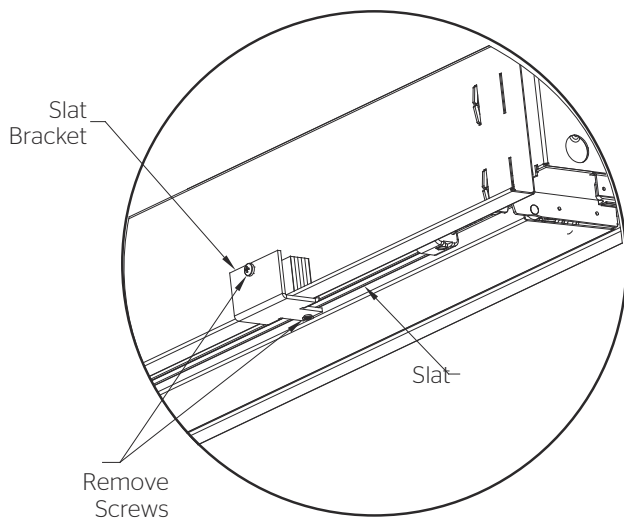

Figure 1
3. If screen surface is tab-tensioned, use a #2 Phillips screwdriver to remove white transport safety brackets attached to slat and screen (Figure 1).